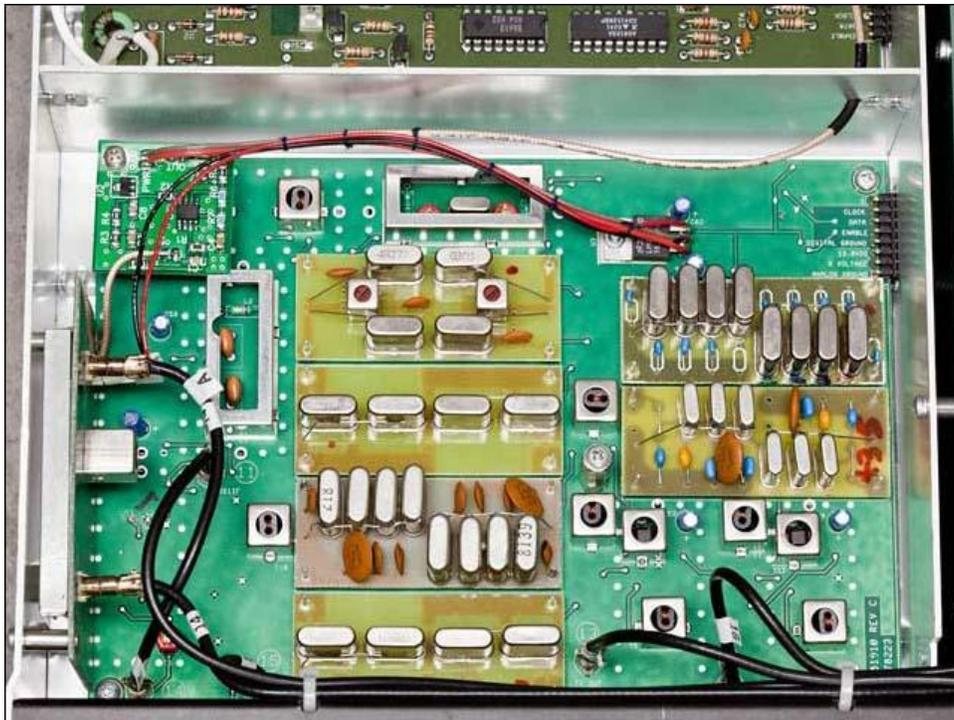

Figure 8: Modified 9 MHz IF board with Z10000 Buffer at upper left
13. Mount the Z10000 buffer with a 1 inch metal stand-off and appropriate longer 4-40 screw in the upper left corner of the 9 MHz IF enclosure (Figure 8).
15. The RG-178 coax from R95 or the output of the Z10000 buffer, if installed, was fed through an **existing hole** between the IF board and the Low Pass Filter board (see Figures 8 & 9 above). The cable was run through existing zap straps on the left of the chassis and along the rear of the rig to the **SPARE** connector jack.
14. The RG-178 coax from R26 or the output of the Z10000 buffer, if installed, was fed through an **existing hole** between the IF board and the Low Pass Filter board (see Figures 8 & 9 above). The cable was run through existing zap straps on the left of the chassis and along the rear of the rig to the **SPARE** connector jack. The buffer output is the small brown RG-178 cable coming in from above the **Band Data 1** jack.)